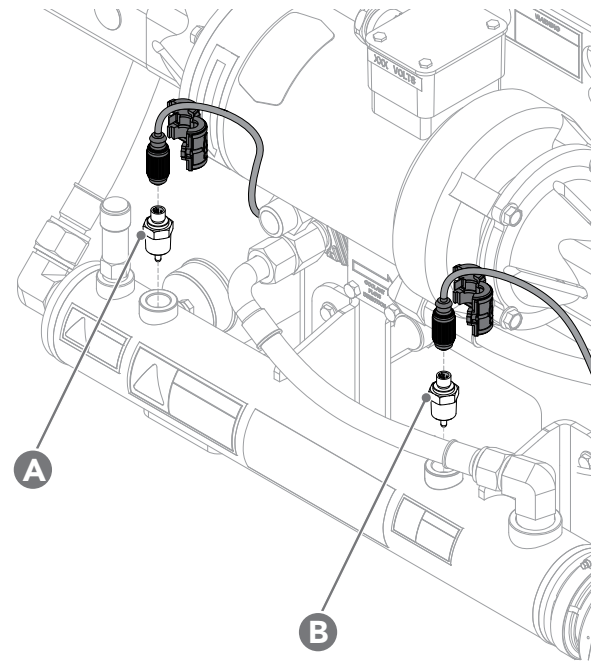

Figure 11. OCSE control RTD (A) and high-limit RTD (B), showing RTD (C), RTD plug (D) and RTD lockout guard (E).
- If there **is no continuity** between TCR terminals **T2** and **T3**, locate connected RTD on the heating tank. Unscrew the RTD plug from RTD. See Fig. 11 and Fig. 12 on following page.
2. Close isolation valves. Drain the fluid from the oil or coolant heating tank. Locate the control RTD (A) or high-limit RTD (B) that requires replacement. See Fig. 11.